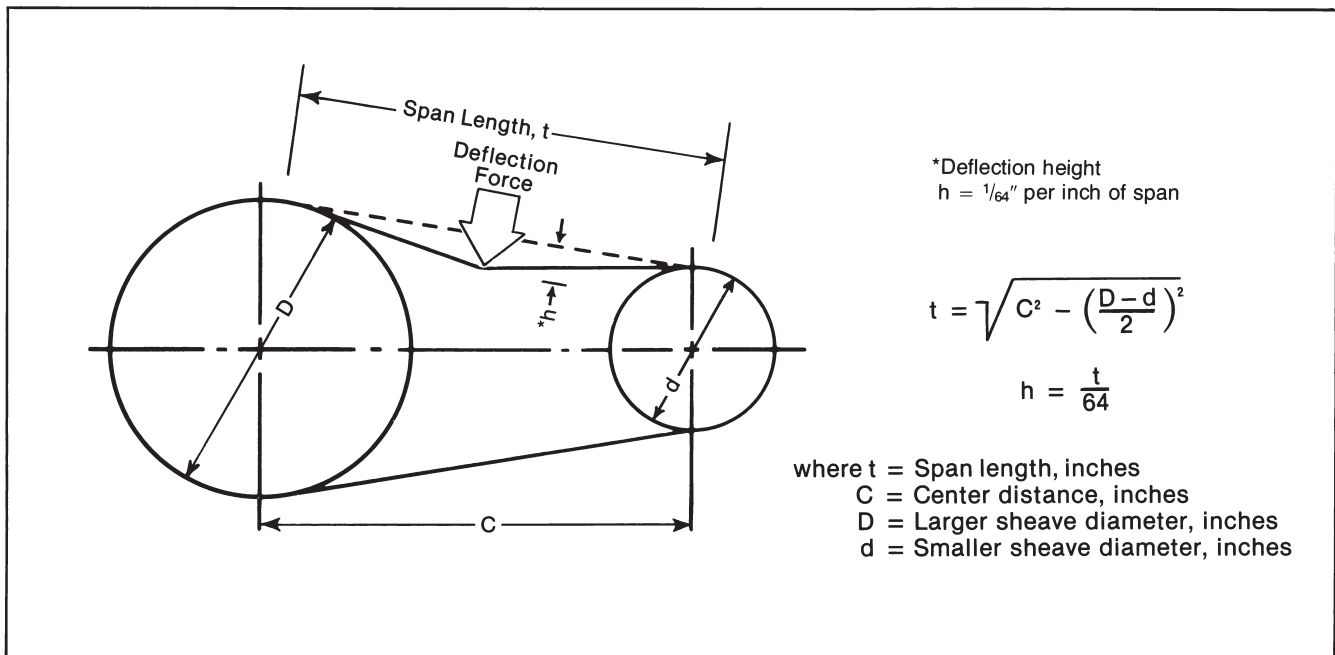

Figure 2
- Step 1: Install belts per Step 1 of General Method. Measure span length (t) in inches as shown in figure 2, or calculate using formula.
- Step 2: From figure 2 the deflection height (h) is always  $\frac{1}{64}$ " per inch of span length (t). For example, a 32" span length would require a deflection of  $\frac{32}{64}$ " or  $\frac{1}{2}$ ".
- Step 4: Using a spring scale, apply a perpendicular force to any ONE of the belts at the mid point of the span as shown in figure 2. Compare this deflection force with the values found in Step 3.